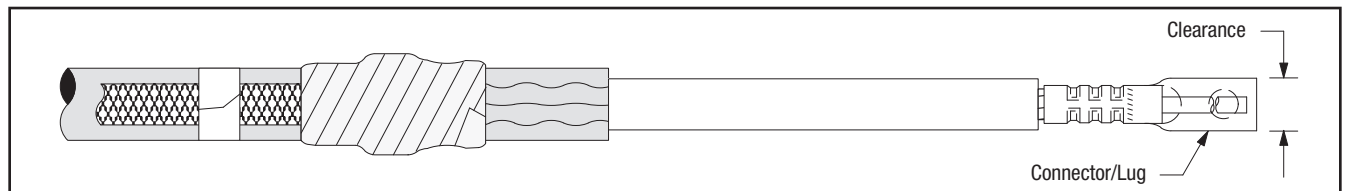

Figure 23
- 14.1 Check to insure 3M Cold Shrink QT -III Silicone Rubber Termination fits over the selected lug or connector BEFORE installing the lug or connector.** If lug or connector (Figure 23) will not fit through the termination core, clean the insulation (per Step 15.0) and slide termination on cable before installing lug or connector. **DO NOT REMOVE CORE AT THIS TIME.**